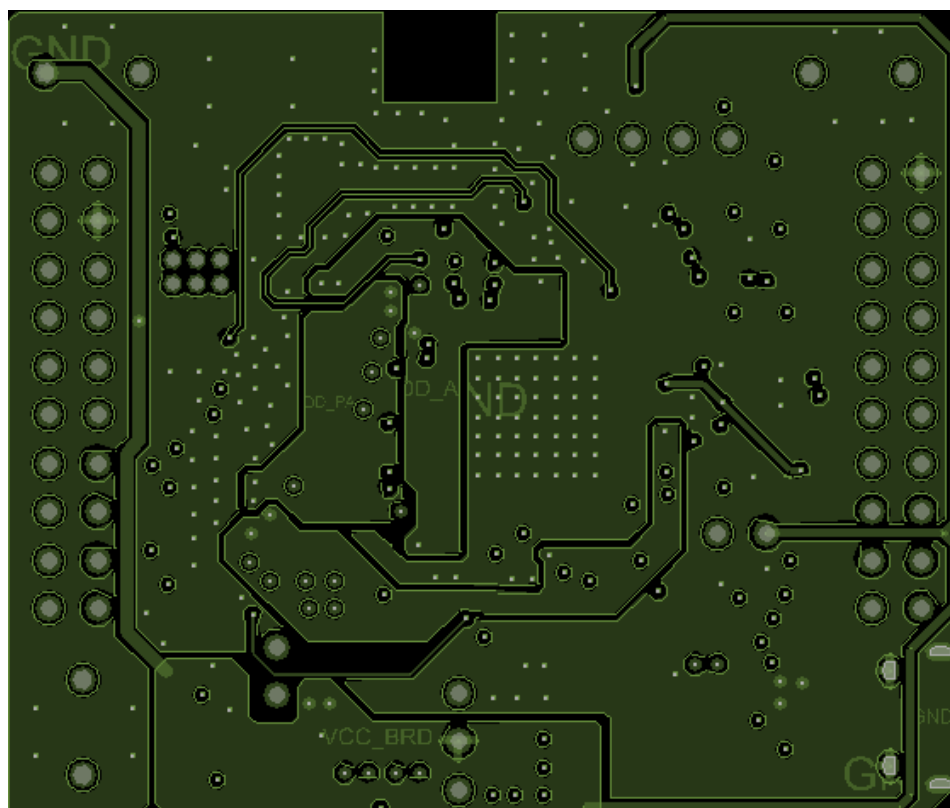

Figure 5. Layer-3
Layer-3 is used to route the power lines to the device (see Figure 5). Power planes are necessary for the power amplifier (PA) and the main supply input to the device. More details are available in subsequent sections.